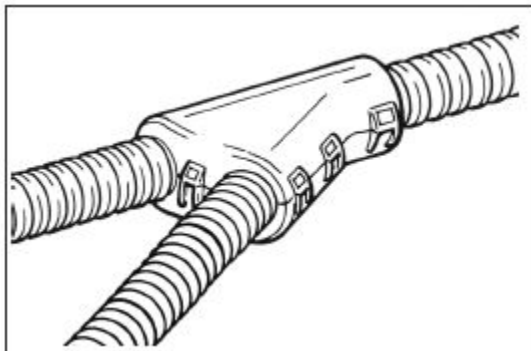

Figure 3.6 Y-adapter
5. Mount the Y-adapter (Figure 3.6) between the parted ends of the conduit.